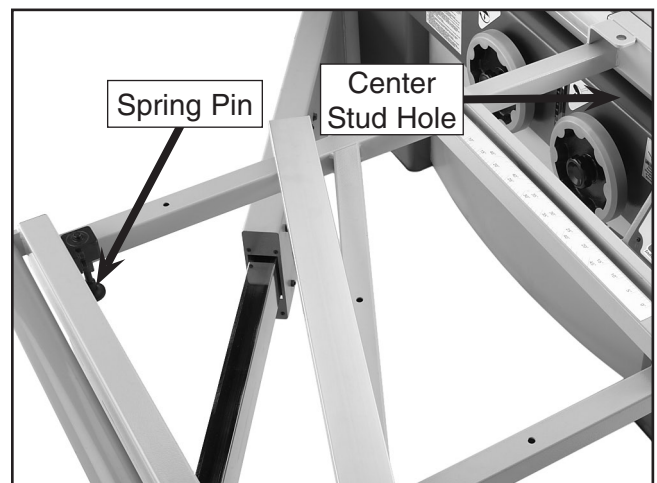

Figure 63. Crosscut fence mounting locations.
1. Drop the crosscut fence into the center stud hole and rotate it until the spring pin shown in **Figure 63** snaps into the T-slot.